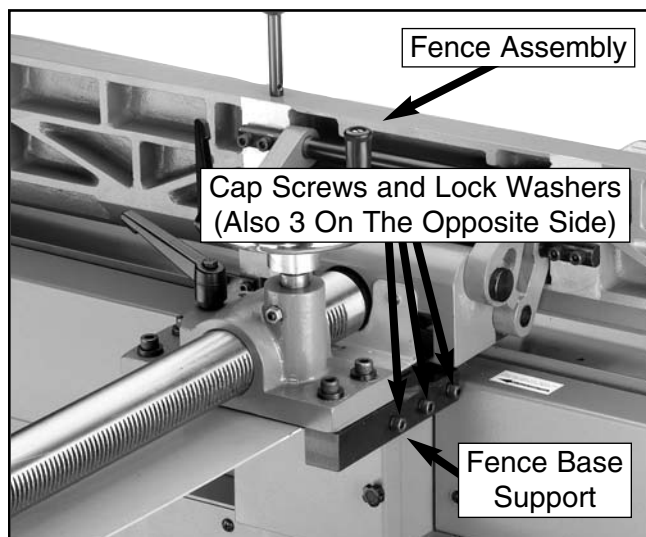

Figure 12. Fence assembly installed.
2. Attach the fence assembly to the jointer assembly with (6) M8-1.25 x 45 cap screws and (6) M8 lock washers (**Figure 12**).